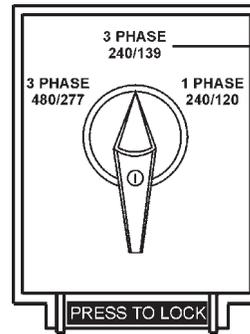

Figure 25. Voltage Selector Switch 240/139V Three-Phase Position
1. Place the voltage selector switch in the 3Ø 240/139 position as shown in Figure 25.
3. Turn the voltage regulator knob (Figure 25) clockwise to increase voltage output, turn counterclockwise to decrease voltage output.